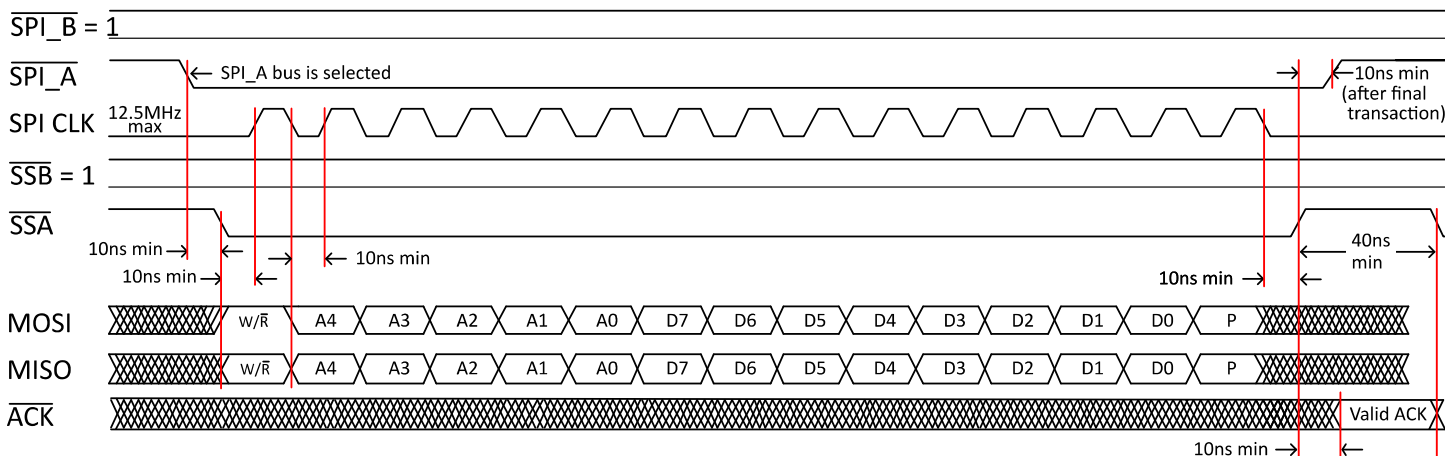
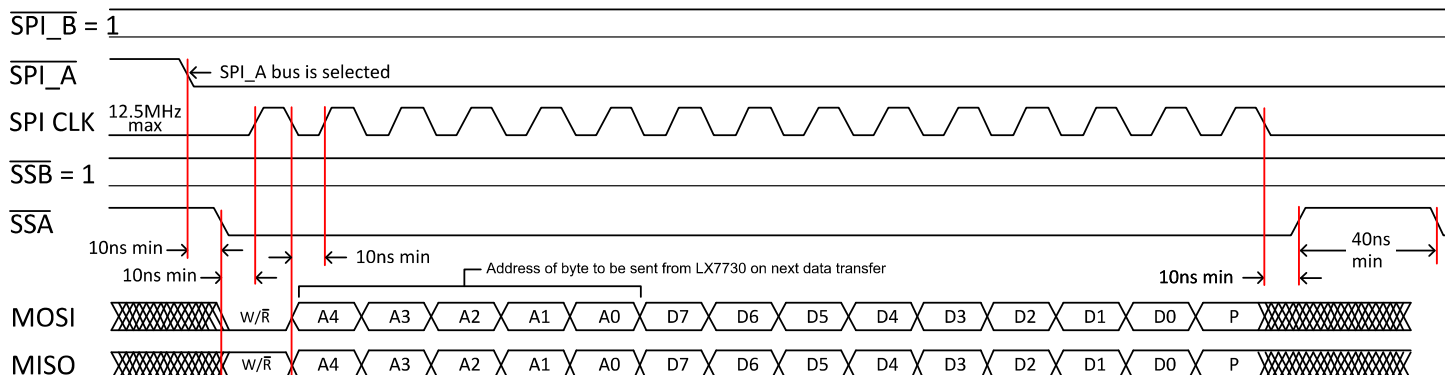
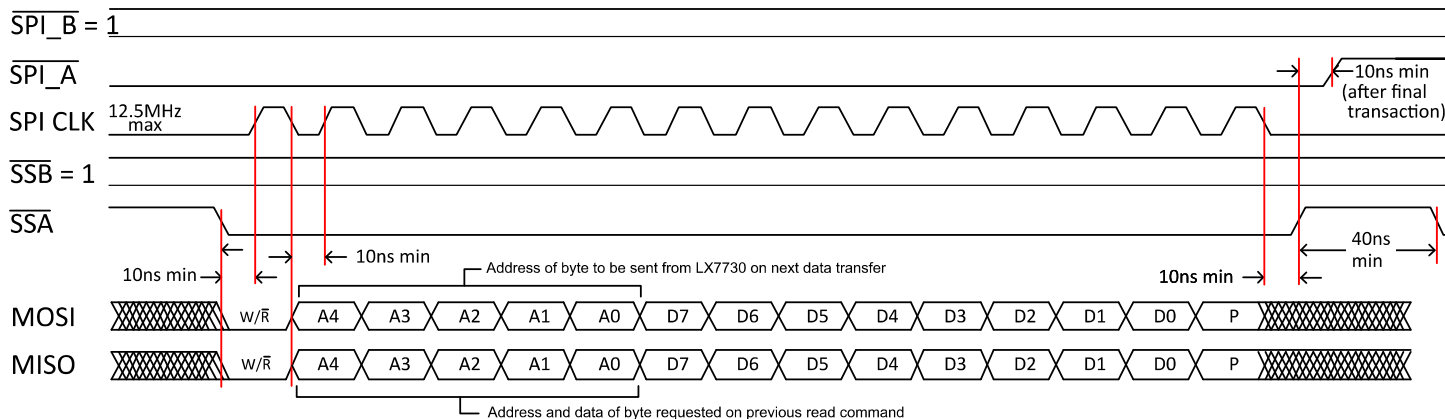

Figure 17. Serial Data Write Timing Diagram (SPI_A taking control of the bus for a single transaction)
Figure 18. Serial Data Read Timing Diagram (first read transaction)
Figure 19. Serial Data Read Timing Diagram (subsequent read transactions)
Figure 17 below shows the serial write timing. Use an 80ns minimum CLKA and CLKB period (12.5MHz), with 32ns minimum high time and 10ns minimum low time. Setup/hold time on MOSI is 10ns/0ns before/after the rising edge of CLKx reaches logic 1. Data is valid on MISO 10ns after the falling edge of CLKx reaches logic 0, and should be sampled on the subsequent rising edge of CLKx.
Figure 18 and Figure 19 below show the serial read timing. The first transaction, shown in Figure 18, uses MOSI to set up the register address from which data is desired. The second transaction, shown in Figure 19, reads the requested register data on MISO while optionally using MOSI to set up the next register address from which data is desired. In the example here, the SPI_A select line is released high after the second transaction since no further reads or writes are required.
3. Execute the read or write sequence per Figure 17, Figure 18, and Figure 19